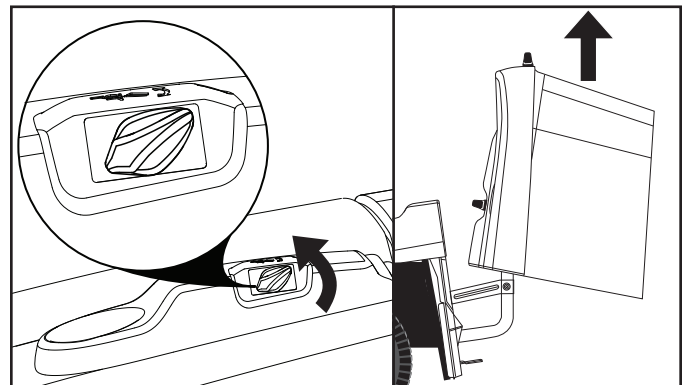

Fig. 20
TO OPERATE ELECTRIC DUMP SYSTEM (See Fig. 20 and 21)
- To lift the bagger, turn the electric dump switch counter clockwise. See Fig. 20.